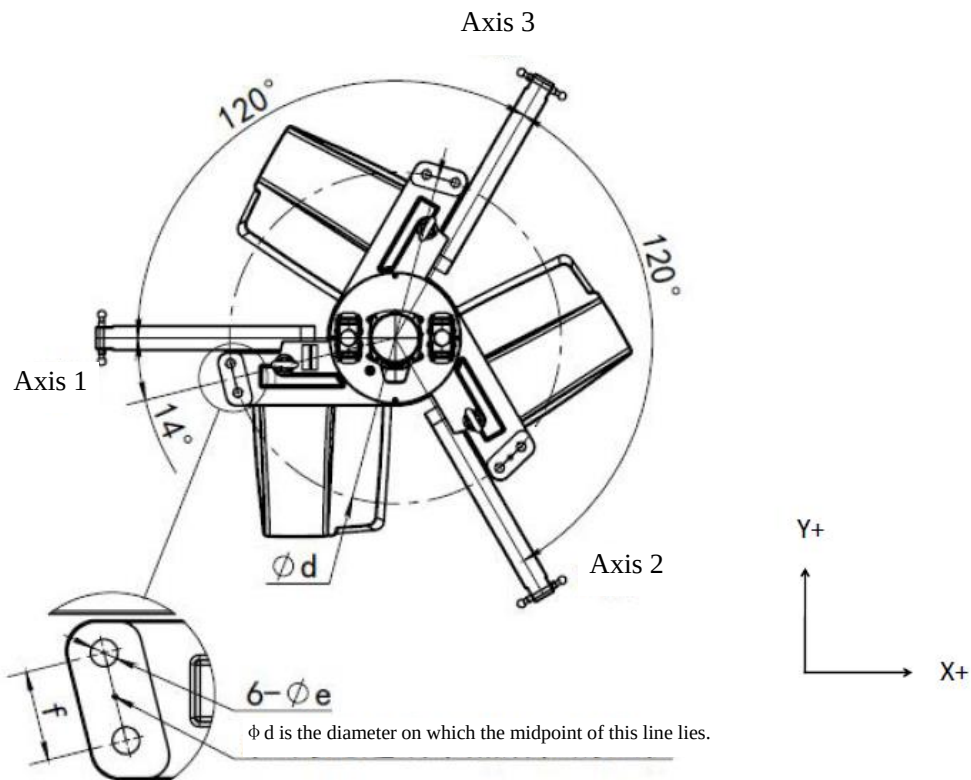

Figure 3-3 Diagram of robot installation direction and installation hole size
2) Keep the X axis of the default coordinate system of the robot parallel to the axis 1 of the body. To balance the force output of each axis as much as possible, when designing the frame, try to avoid making the body axis parallel to the main movement direction in the working process. Taking the Bat1100-S3 robot as an example, refer to Figure 3-3 for the robot installation direction and installation hole size.